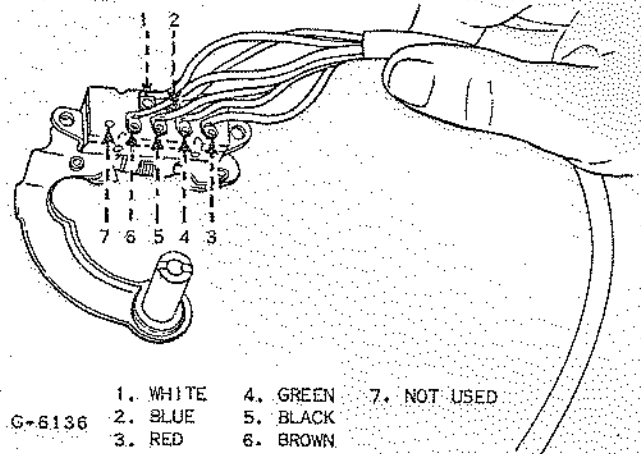

Fig. 7 - Turn Signal Switch
7. The switch is not repairable and is supplied complete with cables as shown in Fig. 7.